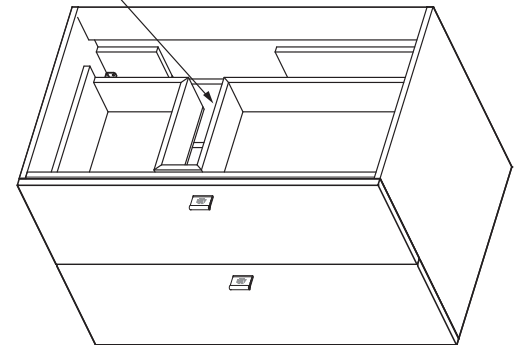

Figure 1.
- Roughing-in supply lines and waste per roughing-in dimensions. **Figure 1.**